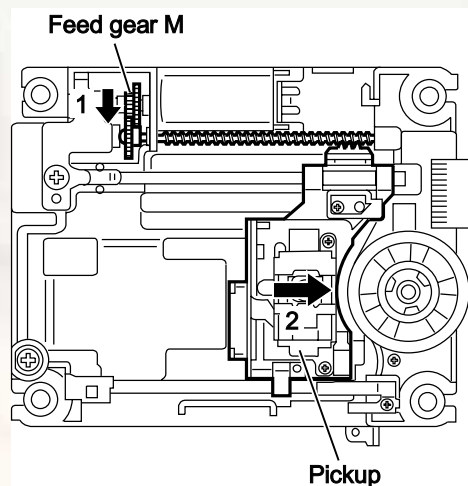

Fig.10
- (5) Turn the feed gear **M** in the direction of the arrow 1 to move the pickup in the direction of the arrow 2. (See Fig.10.)